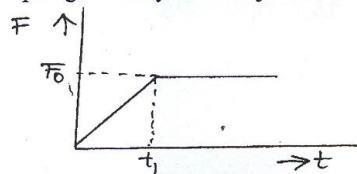

Fig.Q2(b)
- b. Obtain a response of a spring-mass system subjected to force excitation shown in Fig.Q2(b).